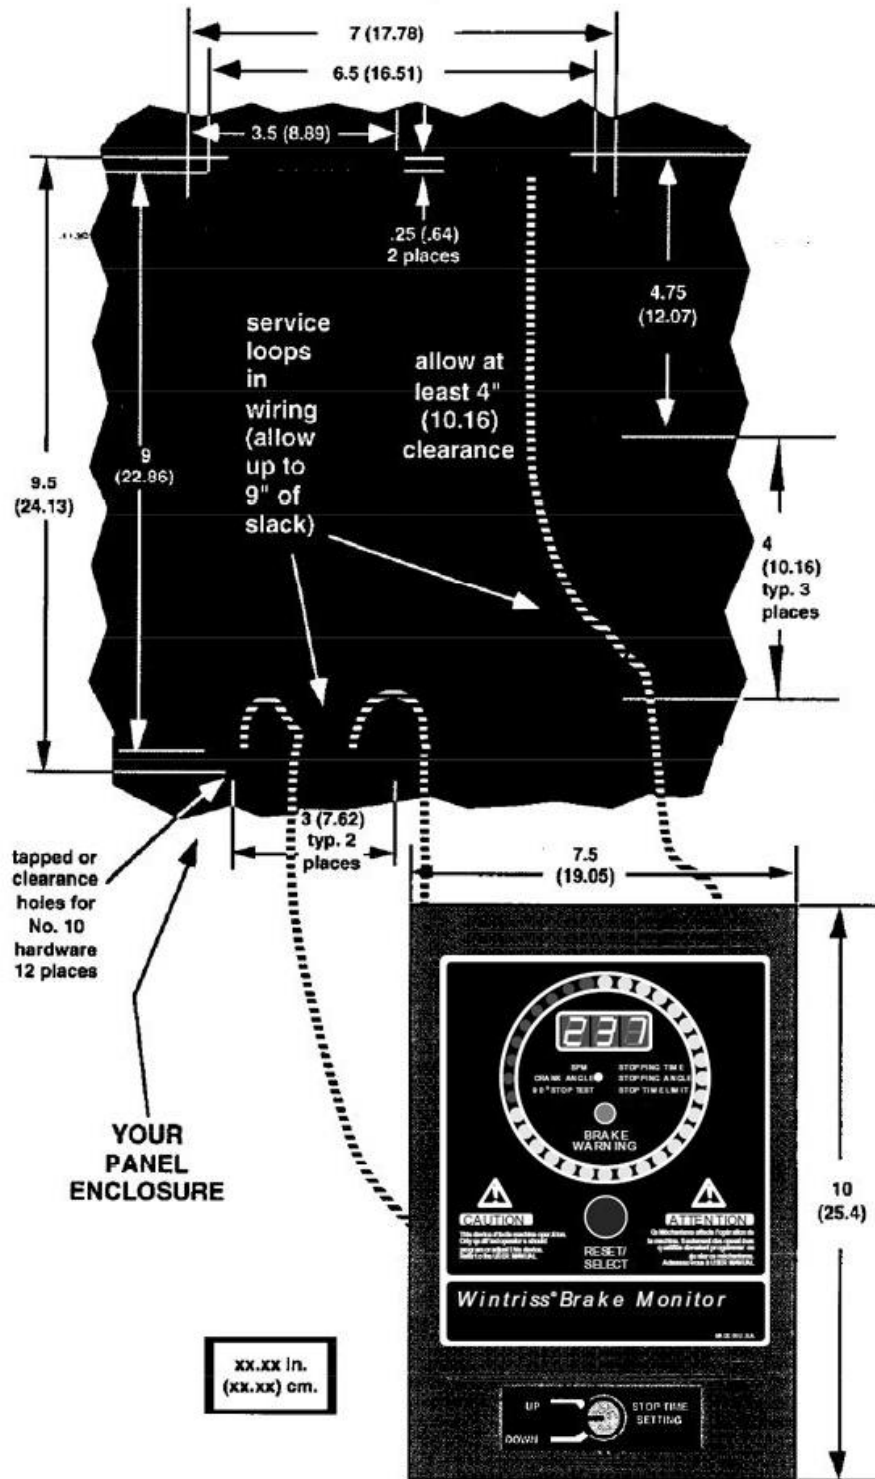

Figure C-1. Mounting and "cutout" dimensions
2. Cut out a hole in your panel enclosure, and drill and tap twelve holes for #10-32 screws. Refer to the drawings in Figure C-1 for mounting dimensions.
3. Prop Wintriss Brake Monitor near the location where it will ultimately be mounted (see Figure C-1). You can do this by connecting ty wraps from two of the left holes on the panel to the corresponding holes on the enclosure for a hinge-like effect. Allow up to 9" of service loop when performing the wiring connections. Also make sure all cables will reach.
Remember earlier you had cut out a hole in your panel enclosure. Mount the Wintriss Brake Monitor panel assembly into this cavity using twelve #10-32 screws. Refer to Figure C-1 for mounting and "cutout" dimensions for Wintriss Brake Monitor panel and your enclosure.